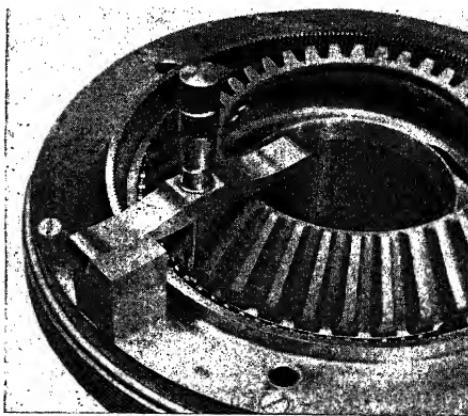

FIG. 48.—Checking gear pre-load by measurement.
4. With the dome completely assembled, except for the positive high-and low-pitch stop rings, measure, with a depth gage and size block, the distance from the surface of the stop locating plate, which rests on the barrel dome shelf, to the rear surface of the inner race of the rear cam ball bearing (Fig. 48).
5. The pre-load is the difference between items 3 and 4 and should be  $0.018 \pm 0.005$ .